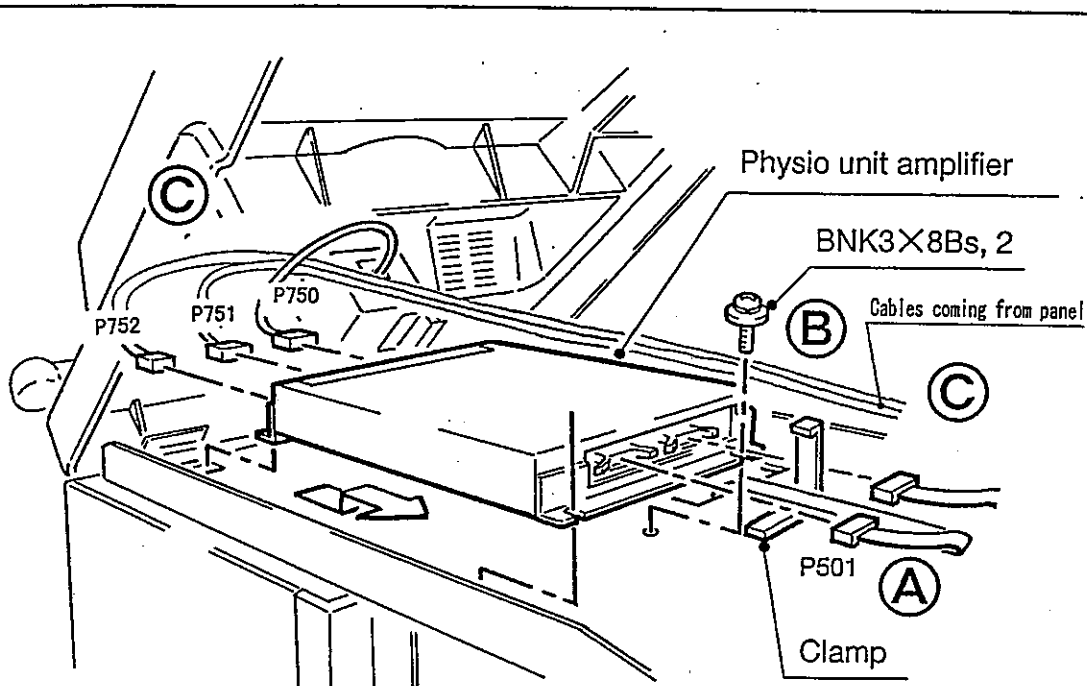

Fig. 35
Then, unclamp and remove cable. (A in fig. 35)
- (6) Unfasten 2 screws, and dismount the physio unit amplifier as shown in the figure. (B in fig. 35)
- (7) Remove all connectors connected to the physio unit amplifier. (C in fig. 35)